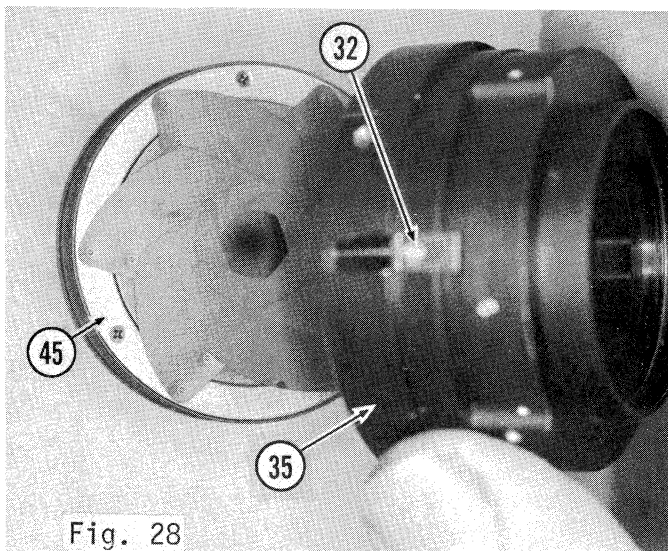

Fig. 28
4.2.3 Install Prime Lens Barrel (35) over Diaphragm Housing (45), seating it fully down. Rotational position is unimportant. (Fig. 28)
- 4.2.11 Tighten two screws (32). (Fig. 28)